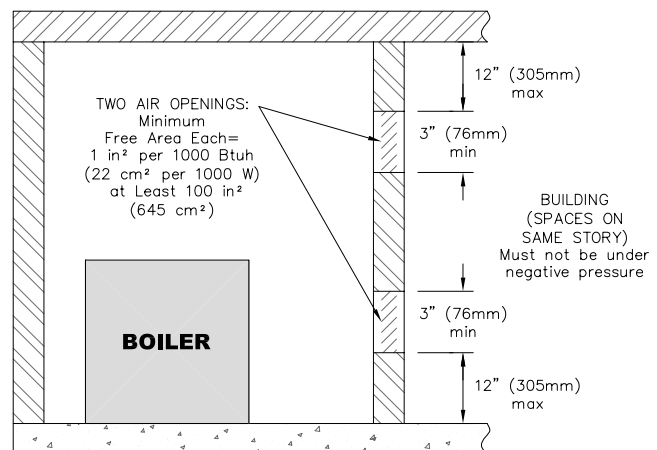

Figure 1.2: Air Openings – All Air from Indoors on the Same Floor
- a. **Combining spaces on the same floor:** Provide two permanent openings communicating with additional spaces that have a minimum free area of 1 in² per 1000 Btu/hr (22 cm² per 1000 W) of the total input rating of all gas fired equipment but not less than 100 in² (645 cm²). One opening is to begin within 12 inches (305 mm) from the top of the space and the other is to begin within 12 inches (305 mm) from the floor. The minimum dimension of either of these openings shall be 3 inches (76 mm). See Figure 1.2 for an illustration of this arrangement.